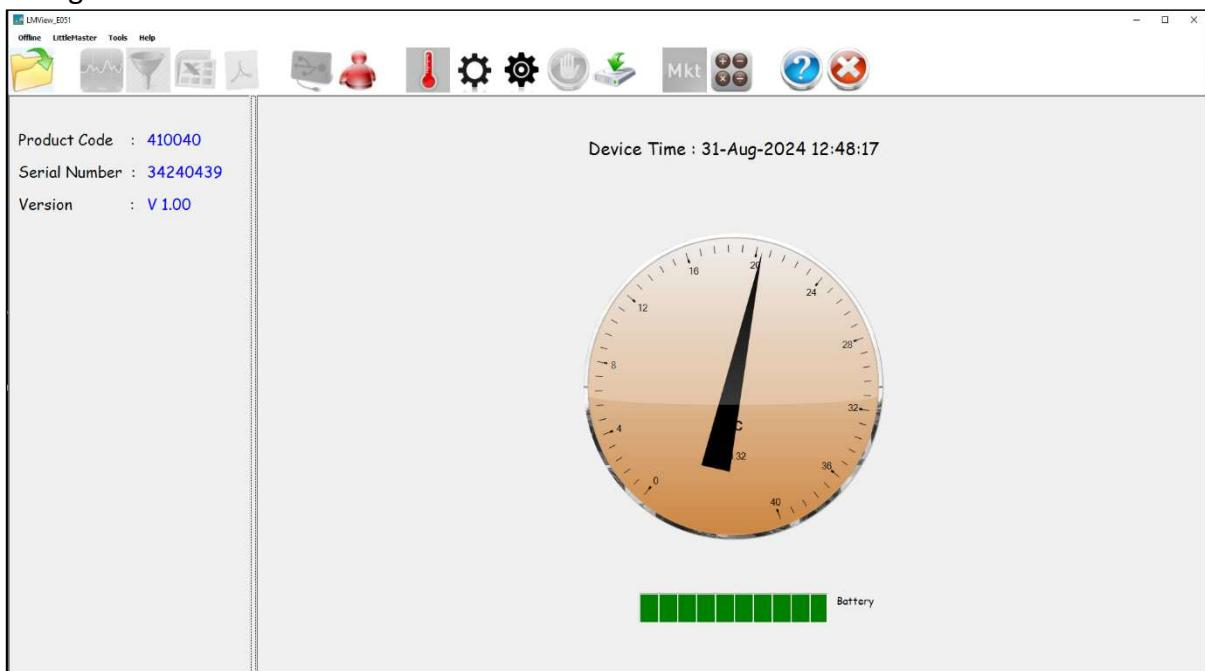

Figure 12 Current Temperature reading of the LMPro T Data Logger
- Click on  icon to connect the device with the LMViewE051. The current temperature reading, Battery level and UTC time of the device will be seen as shown in figure 12.